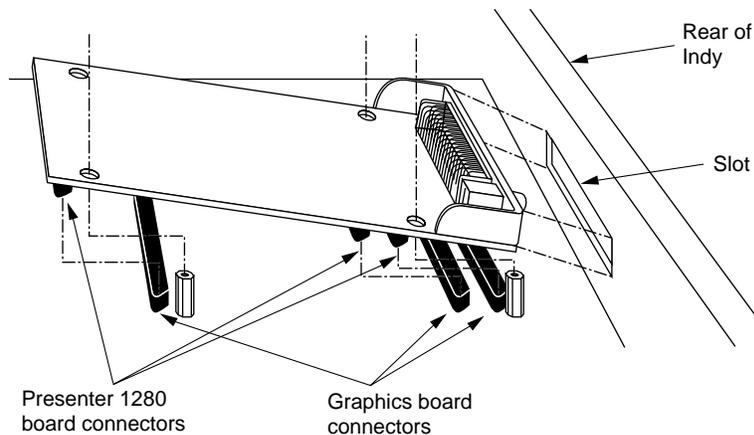

Figure 3-3 Positioning the Presenter 1280 Board Over the Graphics Board
- Grasp the board by the sides, with the three male connectors on the underside, as shown in Figure 3-3.